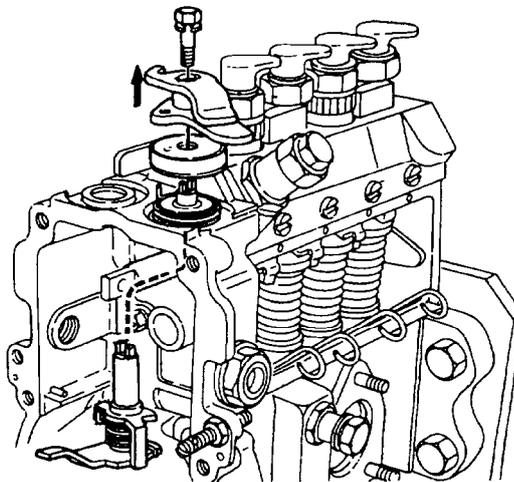

Figure 91 Removing the Stop Lever Assembly
- n. Remove the bolt securing the stop lever to the stop lever shaft and remove the stop lever, cap, return spring, O ring, shim and shaft from the governor housing (Figure 91). Discard the O ring.